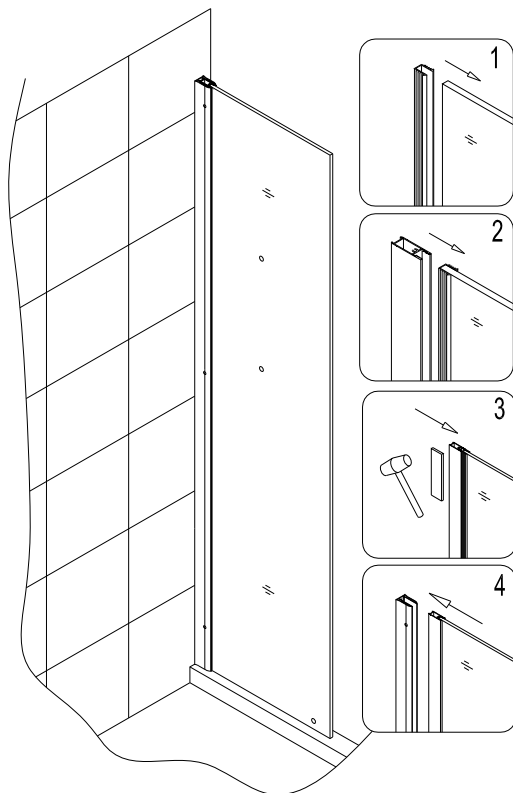

Fig 15
15. Locate the **Stationary glass (25)**. Small hole on the short side of the stationary glass should be on the bottom and away from wall. Place a **U-shape seal gasket (33)** on the long (vertical) side of the glass panel. Push the **Stationary glass (25)** into **Glass profile (5)** groove using a hammer. ( **NOTE: If the stationary Glass and the glass profile have been assembled, you can skip this step.** ) See Fig 15 for details.